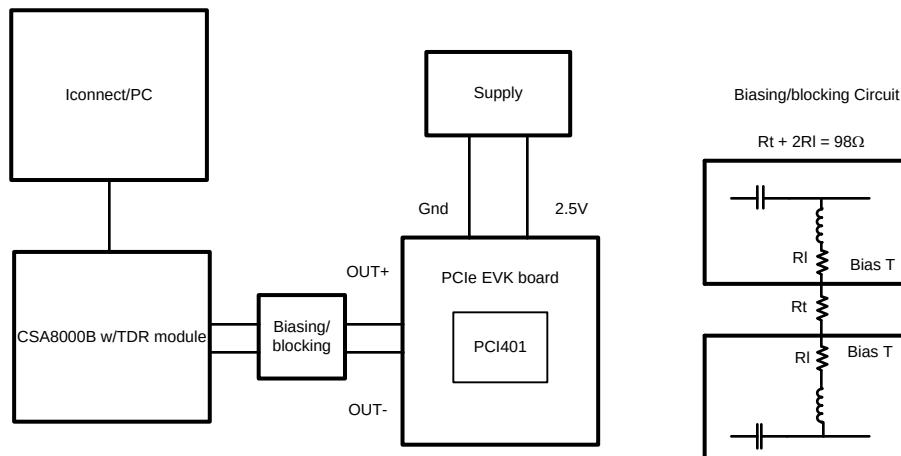

Figure 6. Input and Output Return Loss Setup
(1) Typical values represent most likely parametric norms at V_{DD} = 2.5V, T_A = 25°C., and at the Recommended Operation Conditions at the time of product characterization and are not guaranteed.
(2) The Electrical Characteristics tables list guaranteed specifications under the listed Recommended Operating Conditions except as otherwise modified or specified by the Electrical Characteristics Conditions and/or Notes. Typical specifications are estimations only and are not guaranteed.
(3) Measured with DEM Select pins configured for 1000mV VOD, see De-emphasis table.
(4) Input edge rate for LVC MOS/FLOAT inputs must be 50ns minimum from 10-90%.
(5) Input Return Loss also uses the setup shown in Figure 6. The blocking / biasing circuit is replaced with a simple AC coupling capacitor for each input to emulate a typical PCIe application.
(6) Measured at package pins of receiver. Less than 40mV is IDLE, greater than 175mV is ACTIVE. SD_TH pin connected with resistor to GND overrides this default setting.
(7) Measured with a repeating K28.5 pattern at a data rate of 2.5 Gbps and 5.0 Gbps.